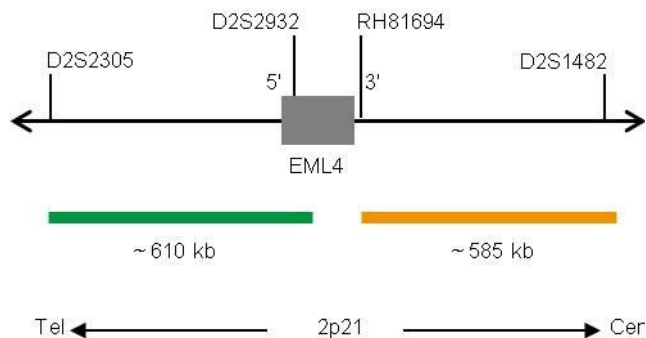

Fig. 1: SPEC EML4 Probe map (not to scale)
- ZyGreen (excitation 503 nm/emission 528 nm) labeled polynucleotides (~10 ng/ μ l), which target sequences mapping in 2p21* (chr2:41,856,860-42,464,761) distal to the EML4 breakpoint region (see Fig. 1).
- ZyOrange (excitation 547 nm/emission 572 nm) labeled polynucleotides (~4.5 ng/ μ l), which target sequences mapping in 2p21* (chr2:42,576,262-43,163,545) proximal to the EML4 breakpoint region (see Fig. 1).